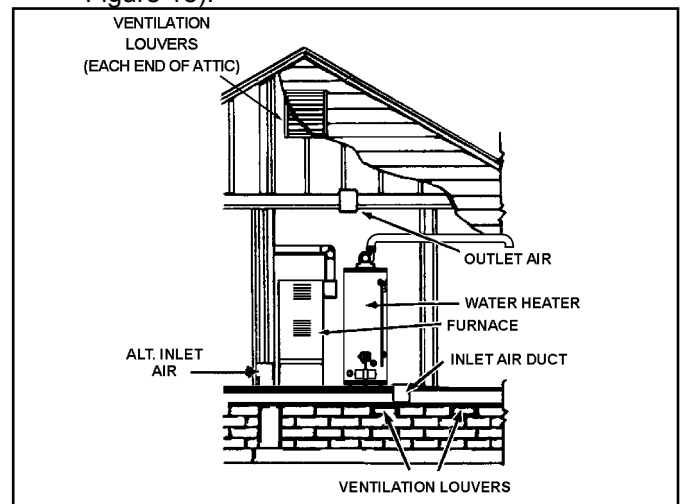

Figure 18
1. When directly communicating with the outdoors, each opening shall have a minimum free area of 1 square inch per 4,000 Btu/hr (5.5 cm²/kW) of total input rating of all equipment in the enclosure (see Figure 18).